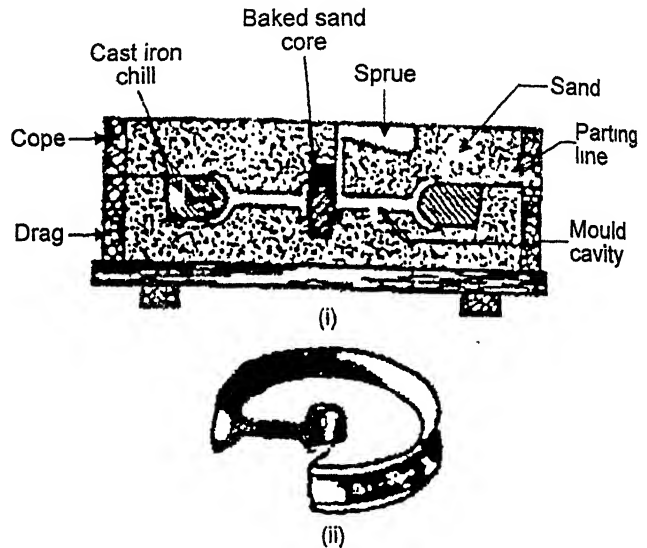

Fig. 8.24. (i) and (ii). Typical mould in cross-section.
- Fig. 8.24 (i) shows a typical mould in cross-section. It illustrates the use of *chills* to produce a local hard surface, a *core* to form a shaft opening, and a *sprue* for running the molten metal into the cavity. A wood or metal *pattern* approximately the shape of the final casting is used to produce the cavity in the sand mould. So that the pattern may be removed from either the cope (upper) or the drag (lower) section of